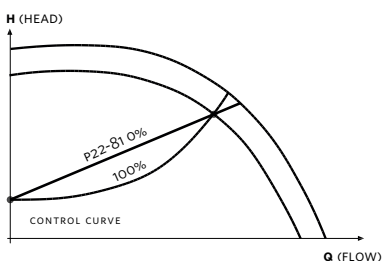

FIG. 11 CURVE APPROXIMATION SETTINGS
The effect of adjusting Par. 22-81 is shown in FIGURE 11 below. A setting of 100% gives the ideal theoretical control curve between the design head and minimum head whilst 0% provides a straight line linear approximation.
- 4 Adjust the shape of the control curve if required using Par. 22-81 as shown in figure 11.